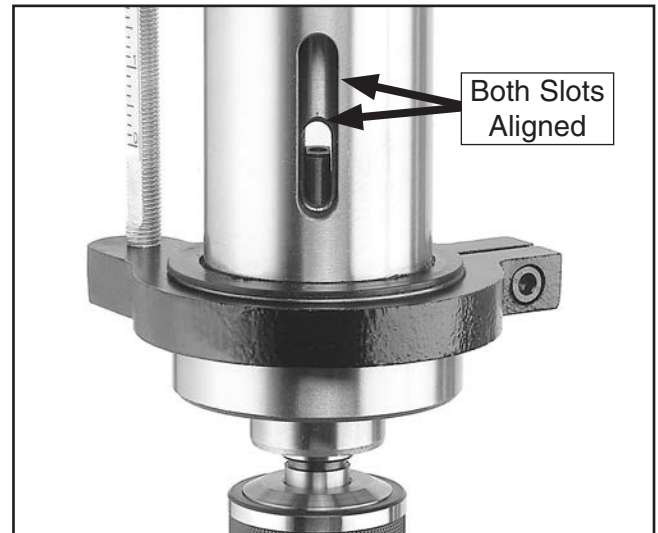

Figure 34. Inner and outer drift-key slots aligned.
6. Rotate the spindle until the inner drift-key slot is aligned with the outer slot, as shown in **Figure 34**. You will see through the spindle when the slot is properly aligned.